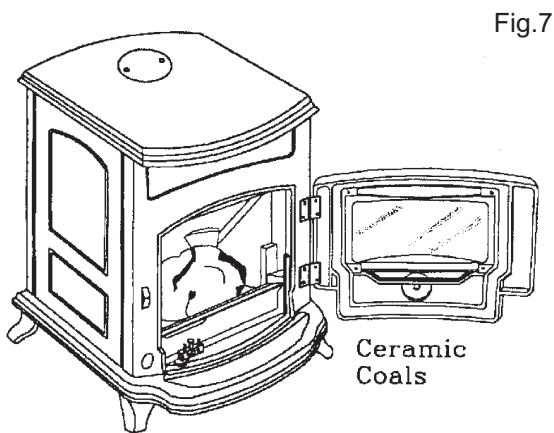

Fig.7
1. Open the fire door (item 9), and remove the package of ceramic coals. (See Fig.7 & 7a)